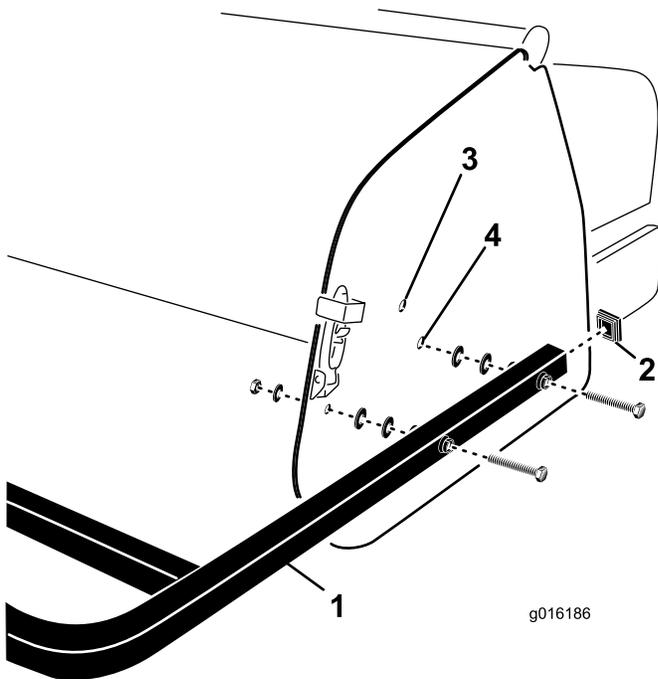

Figure 29
1. Insert the end caps into the ends of the rear guard tubes (Figure 29).
2. Align the holes in the rear guard mounting tubes with the holes in the aerator side plates (Figure 29).
3. Secure the guard mounting tubes to the side plates with (4) screws, flat washers and nuts (Figure 29).